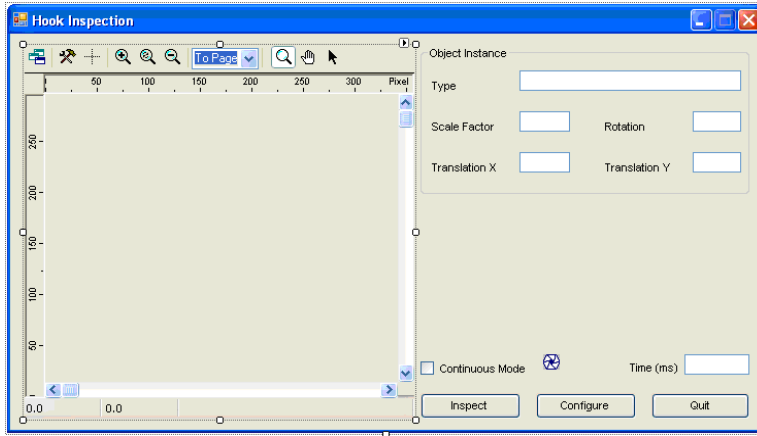

Figure 97 C# Form for Tutorial 2
3. Click the **HSDisplay Control** icon and drag a small box on the form. Set the width to 378 and height to 365. The default name is `axHSDisplay1`. Rename it `ApplicationDisplay`. The interface of the project is now complete and should look like the form in Figure 97.